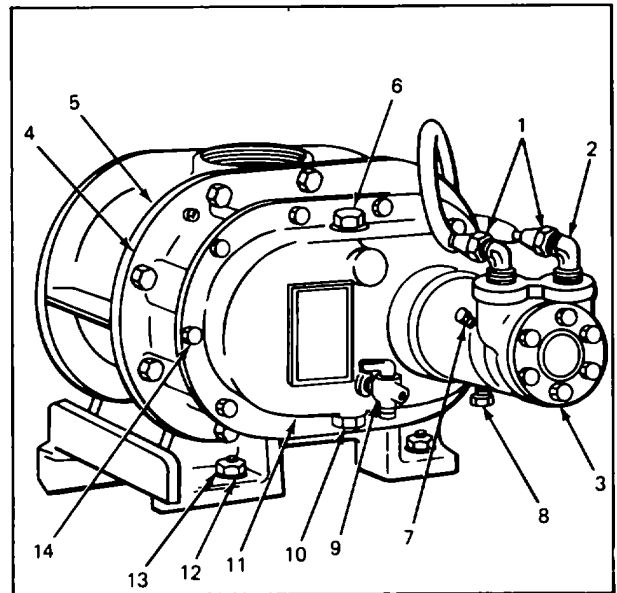
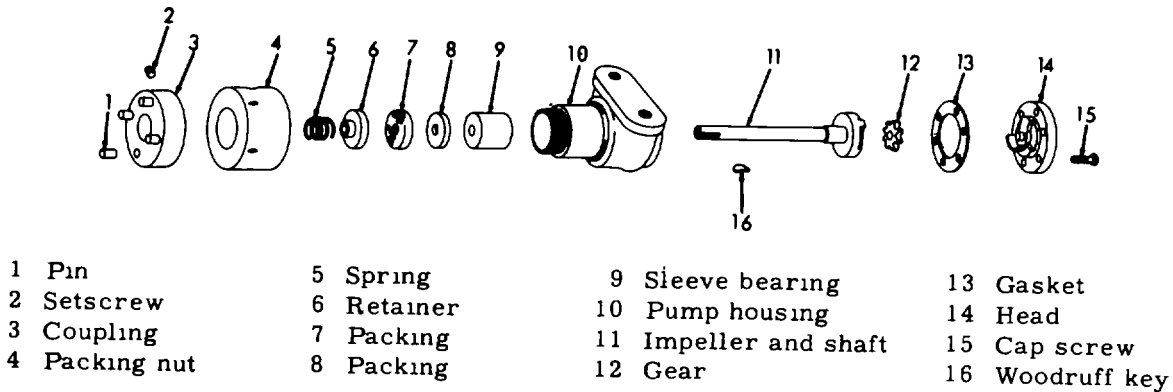

Fig. 89. Burner Blower and Fuel Pump
Figure 90. Burner Fuel Pump-exploded View
- a. Remove the two tube nuts (1, Fig. 89) from the elbows (2) and remove the drain plug (8).
- b. Remove the drain plug (10) from the gear housing (11) and drain the oil.
- c. Remove the ten cap screws (14) securing the gear housing (11) to the blower (5). Remove the gear housing and the gasket (4) from the blower.
- d. Remove the two setscrews (7) that secure the pump assembly to the gear housing.
- e. Remove the setscrews (2, fig. 90) from the coupling (3) and the key (16) from the shaft (11).
- a. Remove the six cap screws (15, fig. 90) securing the head (14) to the pump housing (10). Remove the head and gasket (13) from the housing.
- b. Remove the gear (12) from the head and remove the impeller and shaft (11) from the housing (10).
- c. Remove the packing nut (4), spring (5), and the retainer (6) from the pump housing (10).
- d. Remove the packing (7 and 8), the sleeve bearing (9) from the housing.
- Install the sleeve bearing (9, fig 90) and the impeller and shaft (11) in the housing (10).
- Install the gear (12) on the head (14) and place the head and gaskets (13) in position on the pump housing (10) and secure with the six cap screws (15).
- Install the packing rings (7 and 8) and the retainer (6) on the shaft (11) and push the packing rings into position in the pump housing (10) with the retainer.
- Install the spring (5) and the packing nut (4) on the shaft (11) and tighten the nut until the shaft will not rotate freely. Then loosen the packing nut until the shaft rotates freely.
- Insert the fuel pump (3, fig. 89) into the gear housing (11) and secure with the two setscrews (7), Install the drain plug (8).
- Install the key (16, fig. 90) and the coupling (3) on the end of the shaft (11) and secure the coupling with the setscrews (2).
- Place the gear housing (11 fig. 89) and gaskets(14)In position on the blower (5) and secure with the ten cap screws.
- Install the drain plug(10) in the gear housing (11) and lubricate.
- Install the two tube nuts (1) on the elbows(2).